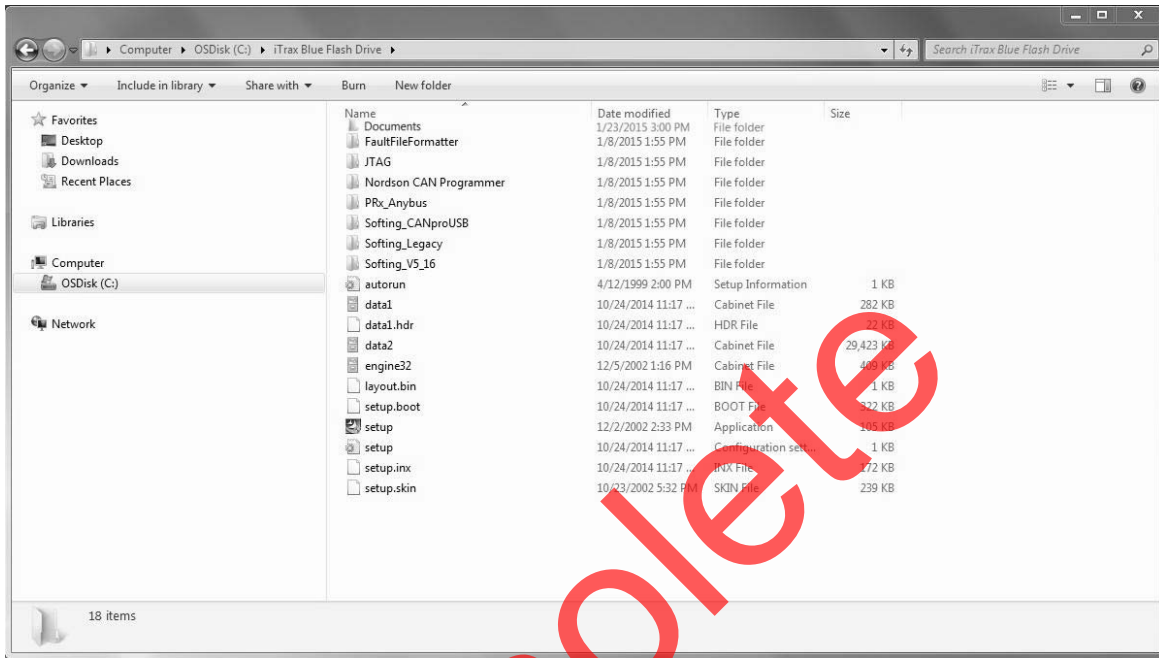

Figure 19 Contents of Blue Flash Drive
5. See Figure 19. Verify that the contents of the newly created folder match those from the flash drive.